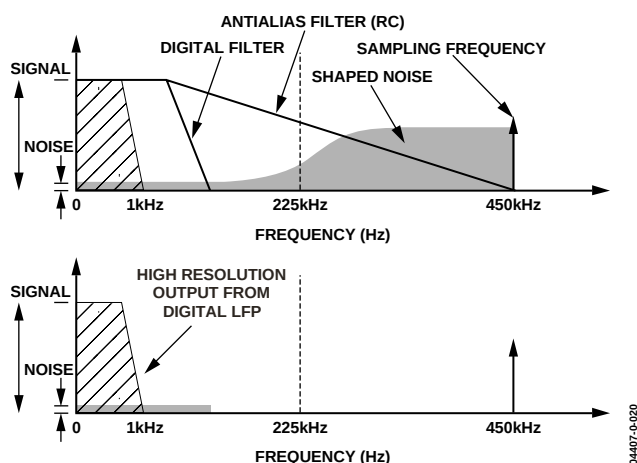

Figure 18. Noise Reduction Due to Oversampling and Noise Shaping in the Analog Modulator
The Σ - Δ converter uses two techniques to achieve high resolution from what is essentially a 1-bit conversion technique. The first is oversampling, which means that the signal is sampled at a rate (frequency) that is many times higher than the bandwidth of interest. For example, the sampling rate in the ADE7761 is CLKIN (450 kHz) and the band of interest is 40 Hz to 1 kHz. Oversampling has the effect of spreading the quantization noise (noise due to sampling) over a wider bandwidth. With the noise spread more thinly over a wider bandwidth, the quantization noise in the band of interest is lowered (see Figure 18).
However, oversampling alone is not an efficient enough method to improve the signal-to-noise ratio (SNR) in the band of interest. For example, an oversampling ratio of 4 is required just to increase the SNR by only 6 dB (1 bit). To keep the oversampling ratio at a reasonable level, it is possible to shape the quantization noise so that the majority of the noise lies at the higher frequencies. This is what happens in the Σ - Δ modulator; the noise is shaped by the integrator, which has a high-pass type response for the quantization noise. The result is that most of the noise is at the higher frequencies where it can be removed by the digital low-pass filter. This noise shaping is also shown in Figure 18.
Figure 18 also shows an analog low-pass filter (RC) on input to the modulator. This filter is present to prevent aliasing. Aliasing is an artifact of all sampled systems, which means that frequency components in the input signal to the ADC that are higher than half the sampling rate of the ADC appear in the sampled signal frequency below half the sampling rate. Figure 19 illustrates the effect.